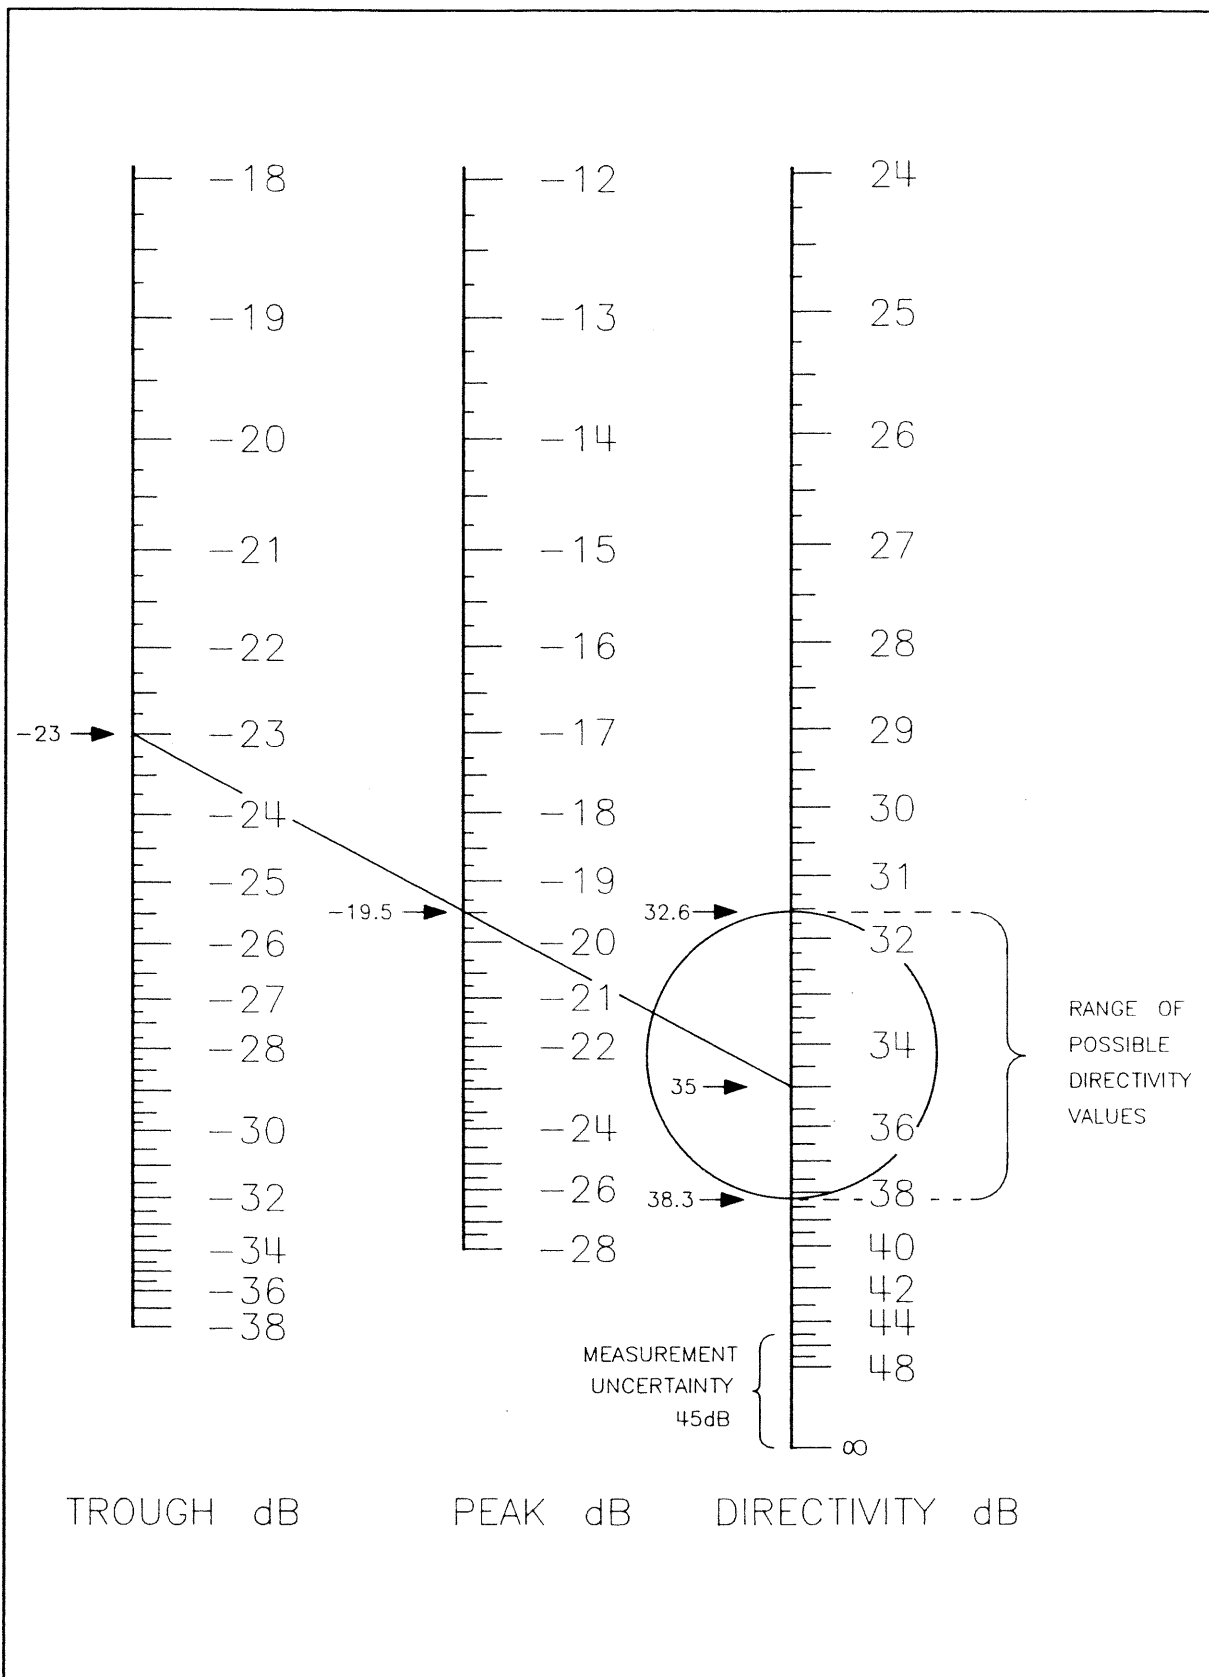

Figure 4-5A. Directivity Nomogram Example
3. Without moving the straight edge, read the calculated directivity as the value where the straight edge intersects the directivity scale. Figure 4-5A shows an example using the values from Figure 4-3.